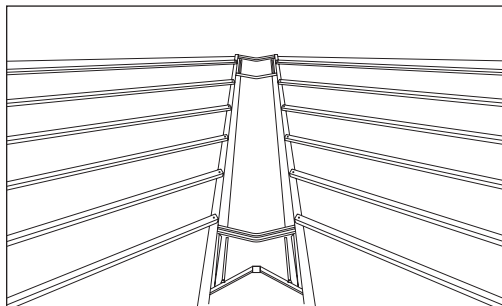

Fig 55 – Position and fix head and foot valley tiles first with valley iron at eaves.
- Fit a galvanised valley iron to base of valley rafter with two 2.65mm diameter screws, or nails, to make foot of valley in line with overhang of tiling into gutter (Fig 55).